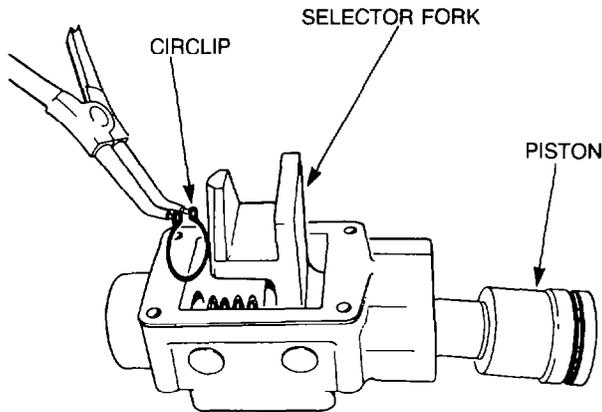

Figure 196 — Removing Circlip
- b. Push the piston into the cylinder bore by hand and remove the circlip retaining the selector fork to the piston from its groove (see Fig. 196).